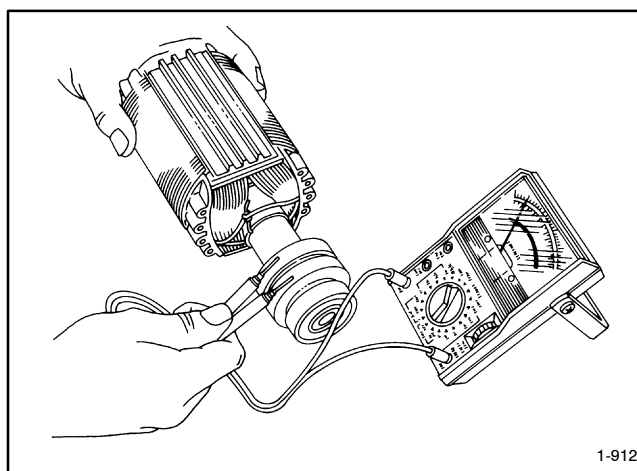

Figure 5-37 Rotor Resistance Check (10/12RY Shown)
2. Check the rotor for continuity and resistance. Measure the rotor resistance (ohms) between the two slip rings (Figure 5-37). Raise the brushes from the slip rings while performing ohmmeter tests. See Figure 5-38 for typical readings. If the resistance test proves inconclusive, perform megohmmeter test on rotor as described in next step.